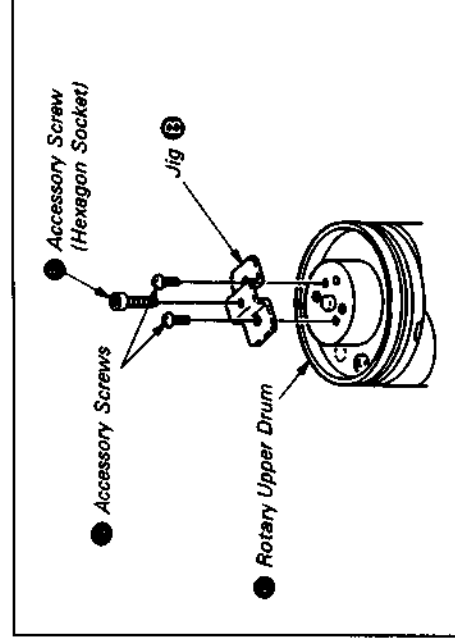

Fig. 7-46.
- 4) Mount the dismantling Jig ⑤ with the accessory screws ● utilizing the screw holes in which the dynamic damper was mounted. Drive the hexagon socket screw ● into the jig ⑤ and remove the rotary upper drum ●. (See Fig. 7-46.)